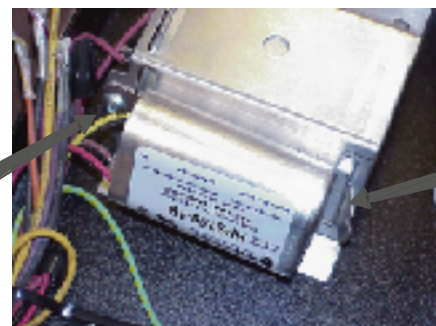

Figure 2
10. If provided, install new ignitor to side of capacitor clamp using provided screw. See Figure 2.
13. Remove socket lead strain relief bracket by removing (1) hex nut. Set nut aside to reuse. Discard bracket.
14. Remove (5) hex nuts securing socket/reflector assembly. Lift assembly from housing.